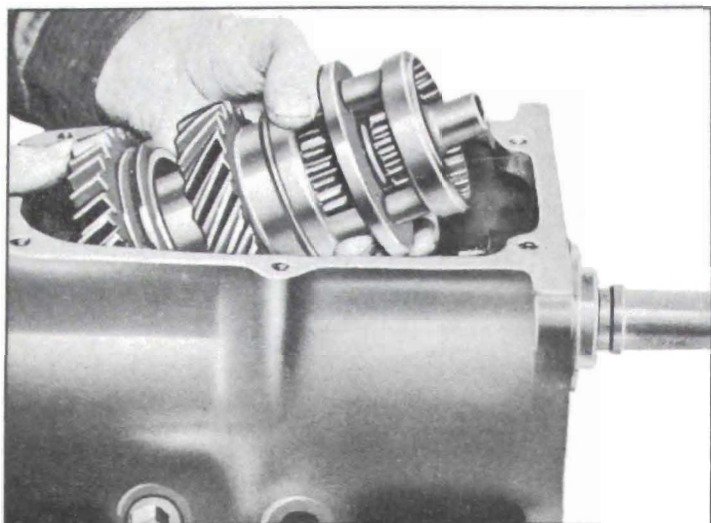

Figure 4-20—Removing Main Shaft Parts
4. Remove rear bearing retainer to transmission case bolts. Move bearing retainer and main shaft back until rear bearing is clear of case. Then slant main shaft and assembled parts toward top of transmission case. See figure 4-20.